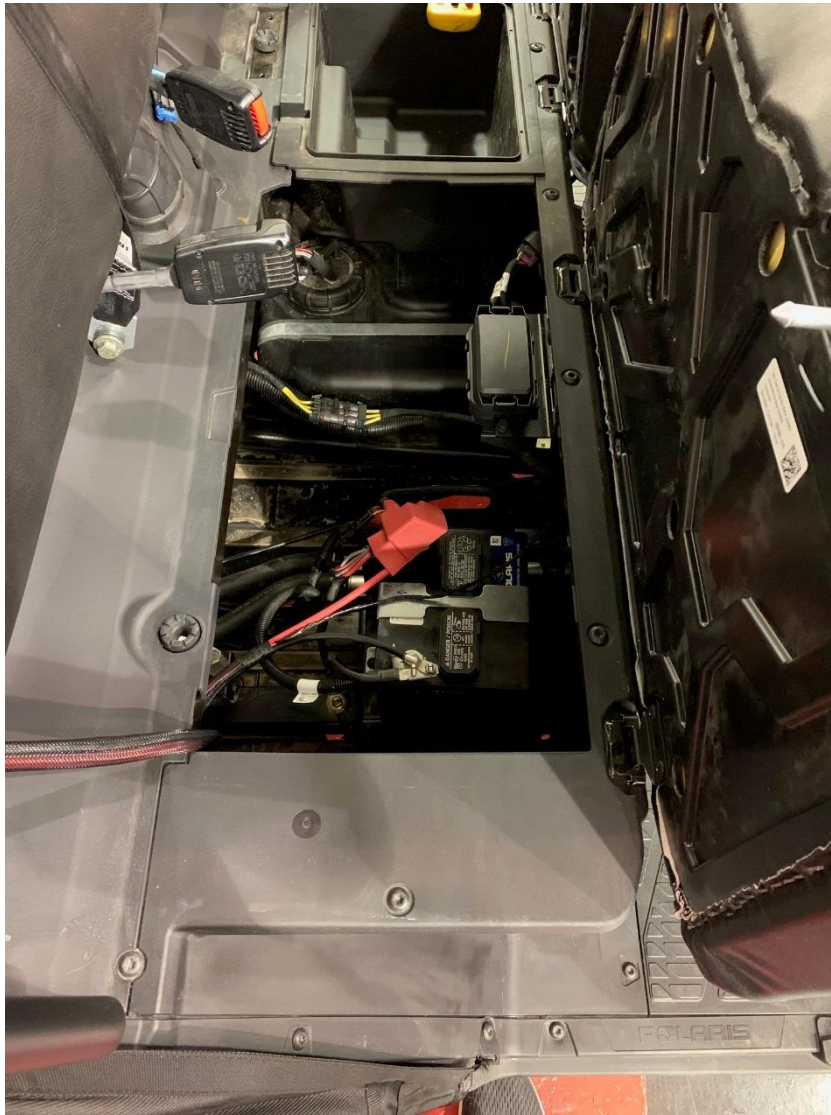

**Figure 5: Speaker wire orientation.**
6. Re-install the speakers. Be sure to place the large quick disconnect on the  $\frac{1}{4}$ " speaker tab and the small quick disconnect on the  $\frac{3}{16}$ " speaker tab. Re-use the Philips head screws you removed previously. Do not over torque the speaker screws with an impact driver (hand tighten only). See Figure 5.